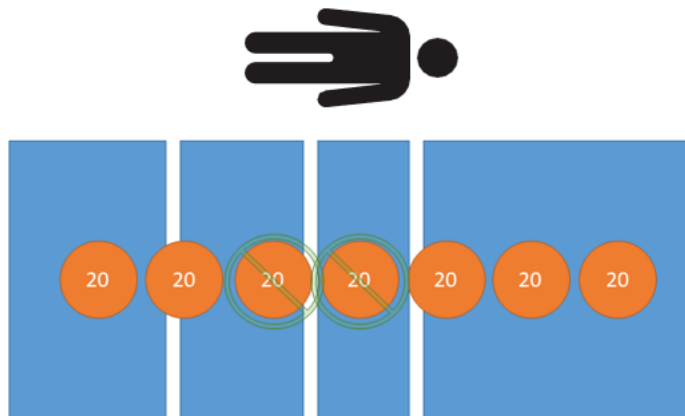

Figure 30 – Tare test - 100 kg net
5. Using calibrated weights, place 100 kg on the product (Figure 30).
9. Using calibrated weights, place 100 kg on the product (Figure 30).